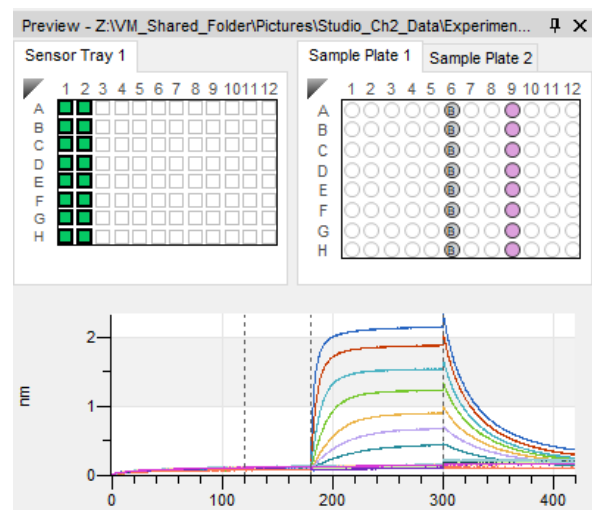

Figure 2-3: Preview Window
Click a folder to display the experiment’s Sensor Tray layout, Sample Plate layout(s), and sensorgrams in the **Preview window** (Figure 2-3). If more than one Sample Plate or Sensor Tray was used, each displays in its own tab. Click the tabs or use the arrow keys to view individual plates.
- To zoom in on a specific area, right-click in the graph area and select **Zoom** (Figure 2-3), or press **CTRL** and click.